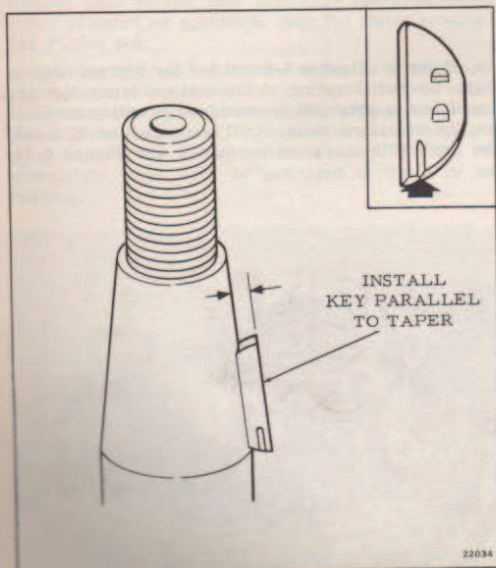

Figure 4-16. Flywheel Key Position
a. If flywheel key has been removed, reassemble to crankshaft with outer edge parallel to taper. See Figure 4-16.
Be sure that the single upset mark on the side of the key is facing down. See Figure 4-16. Incorrect installation of the key will affect cam position and ignition timing.